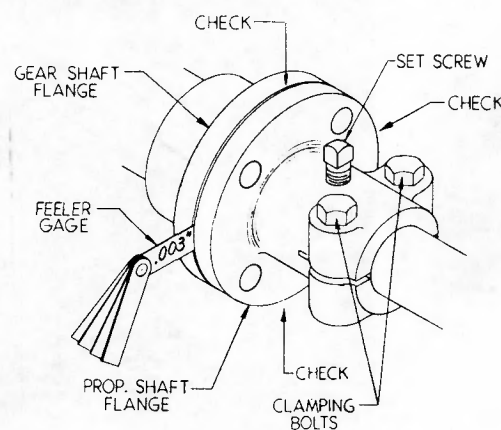

FIG. 6
- Check with a feeler gage in at least 4 places (without rotating either flange) to make sure that there is NO MORE THAN A .003" SPACE between the flanges. (SEE FIG. 6)